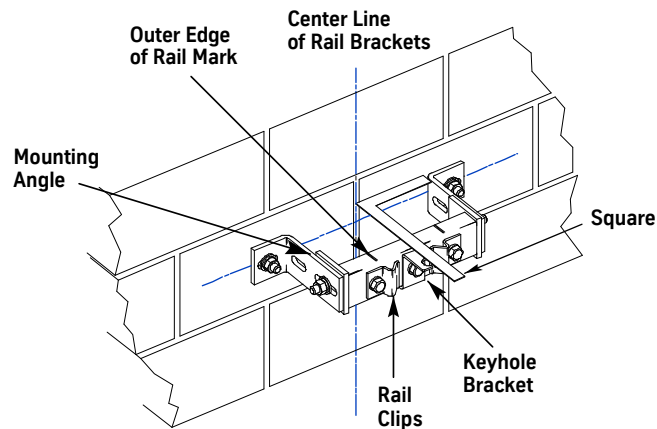

Figure 23 - Rail Bracket Location
- b. Drill the holes for the anchor bolts, or weld the bracket to the beam. See Figure 23.
- e. Align and plumb the bracket to the mounting angles (per alignment marks), and lock the bracket to the mounting angles. See Figure 23.